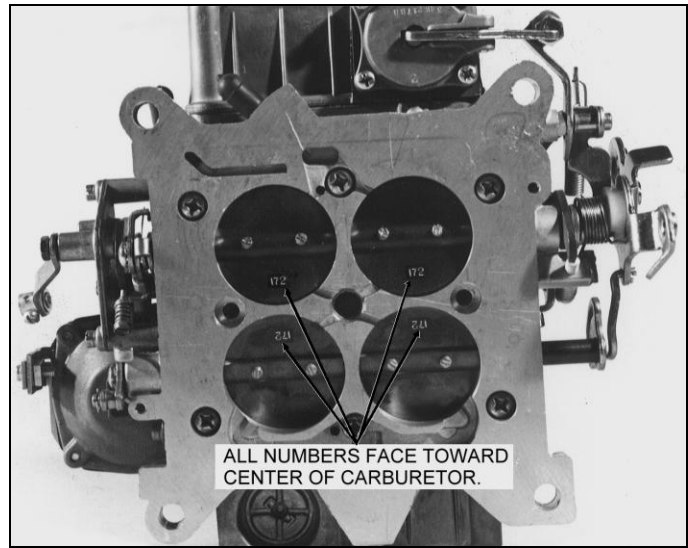

FIGURE 8
2. Notice the part numbers stamped on each plate. Take a new throttle plate and place it into the throttle bore with "R" facing down and the Part number facing to the center of the carburetor. See Figure 8. The throttle plate should rest at a 15° angle in the closed position.
NOTE: The photo in Figure 8 shows the bottom and side views of the throttle body and throttle plates. Notice that the part numbers stamped on the plates face toward the center of the throttle body. On two barrel carburetors, the numbers will face towards the rear.